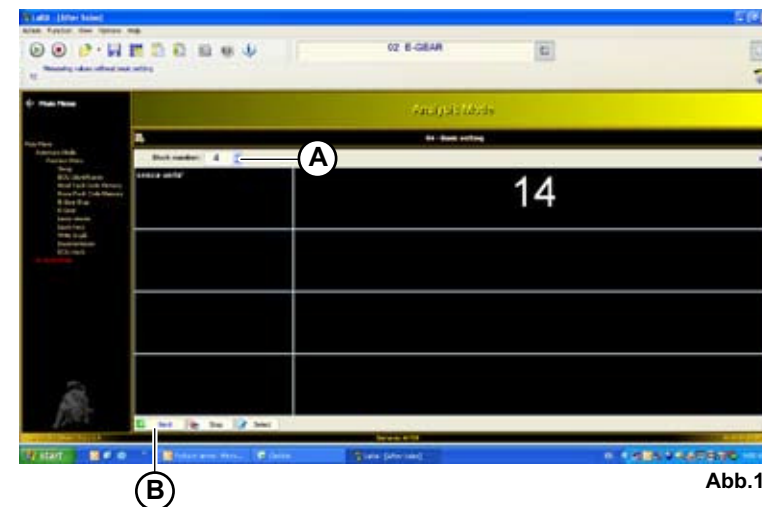

Abb.12
- Select routine 4 inside the block number (A-Fig.12).
- Start the connection () and press the start push-button (B-Fig.12).